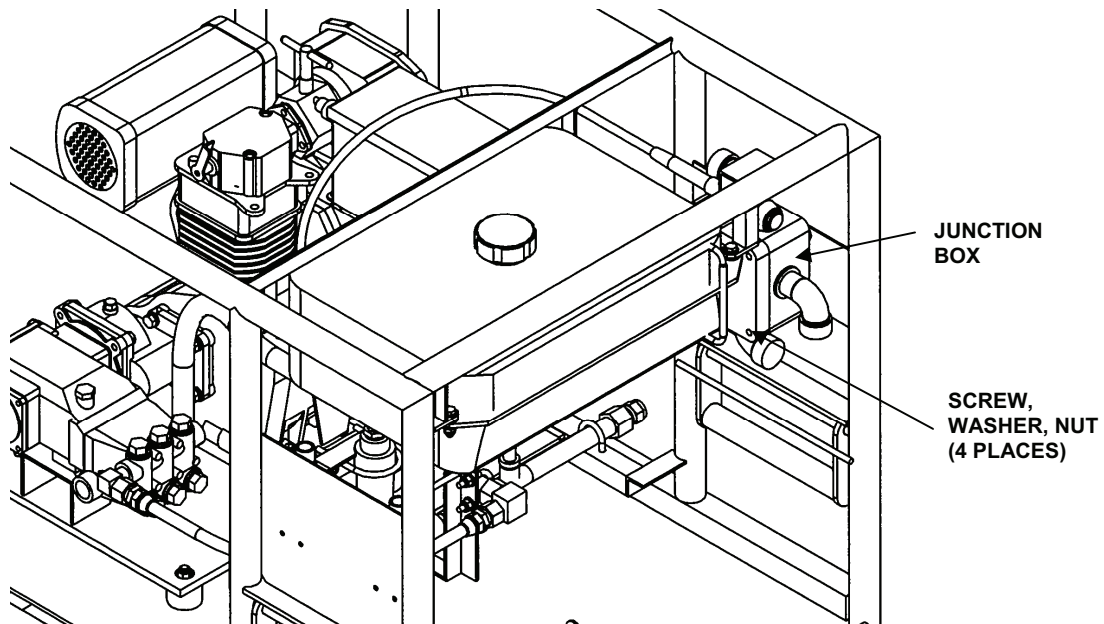

Figure 1. HP Module Junction Box Location.
2. Remove four (4) screws from junction box cover. Remove cover. Refer to Figure 1.